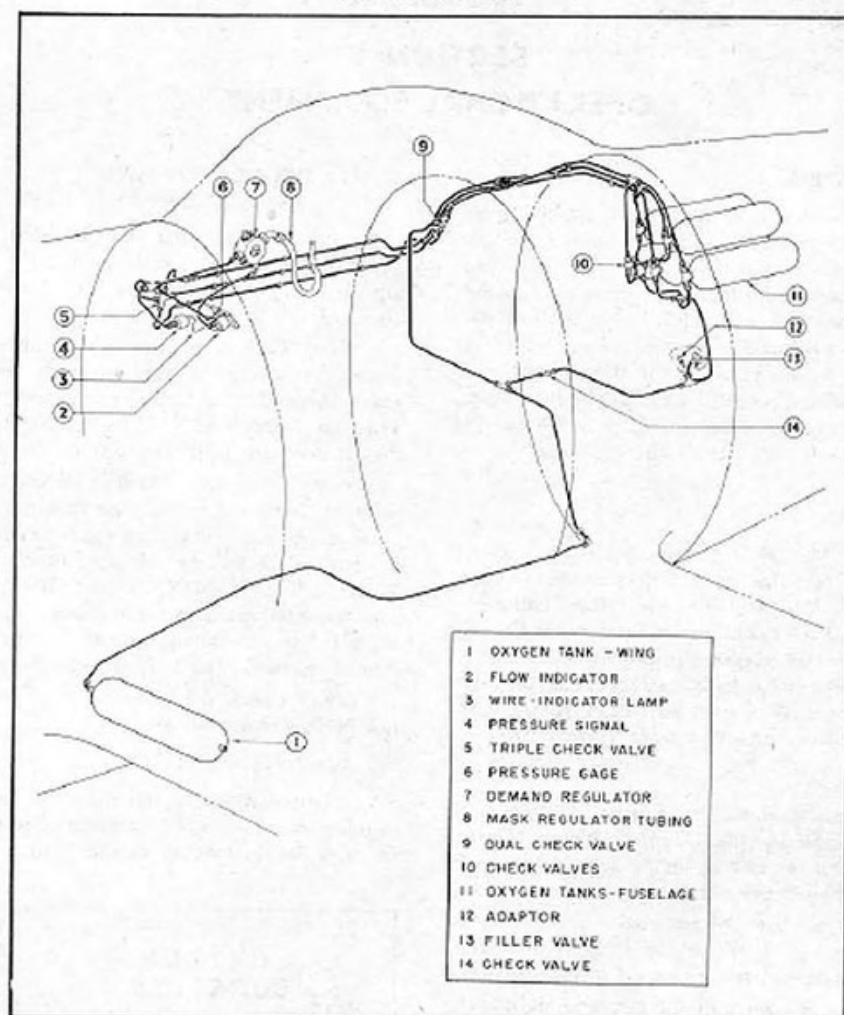

Figure 45—Oxygen System
*a. GENERAL.*—Breathing oxygen is supplied from six type D-2 low-pressure cylinders located in the fuselage aft of the cockpit and in the left-wing leading edge. (See figure 45.) An oxygen demand regulator is located to the pilot's right on the cockpit wall. A pressure gage and flow indicator are mounted on a sub-panel to the right of the instrument panel. (See figure 39.) The cylinders may be charged through the oxygen filler valve located on the fuselage left side aft of the cockpit.